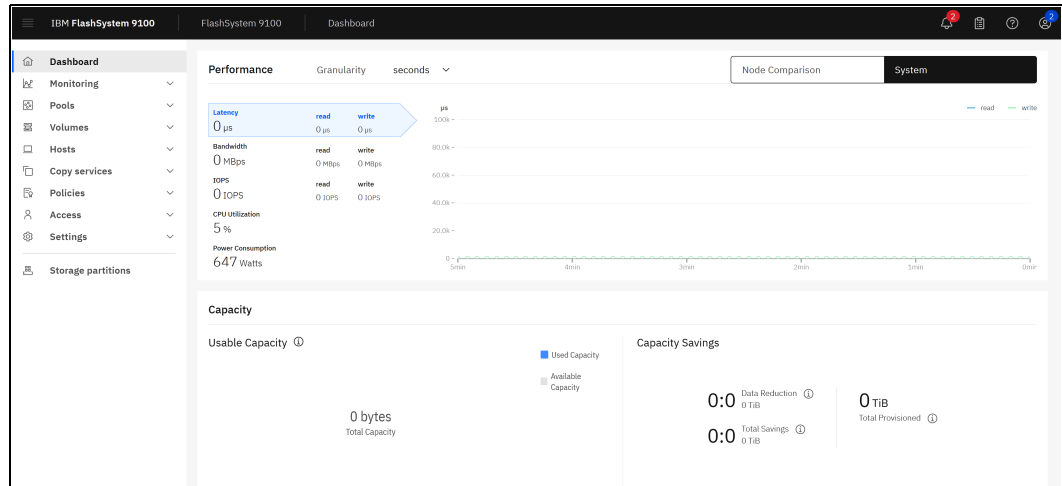

Figure 2-41 Dashboard
29. Clicking **Close and Finish** takes you to the Dashboard (see Figure 2-41 on page 51).